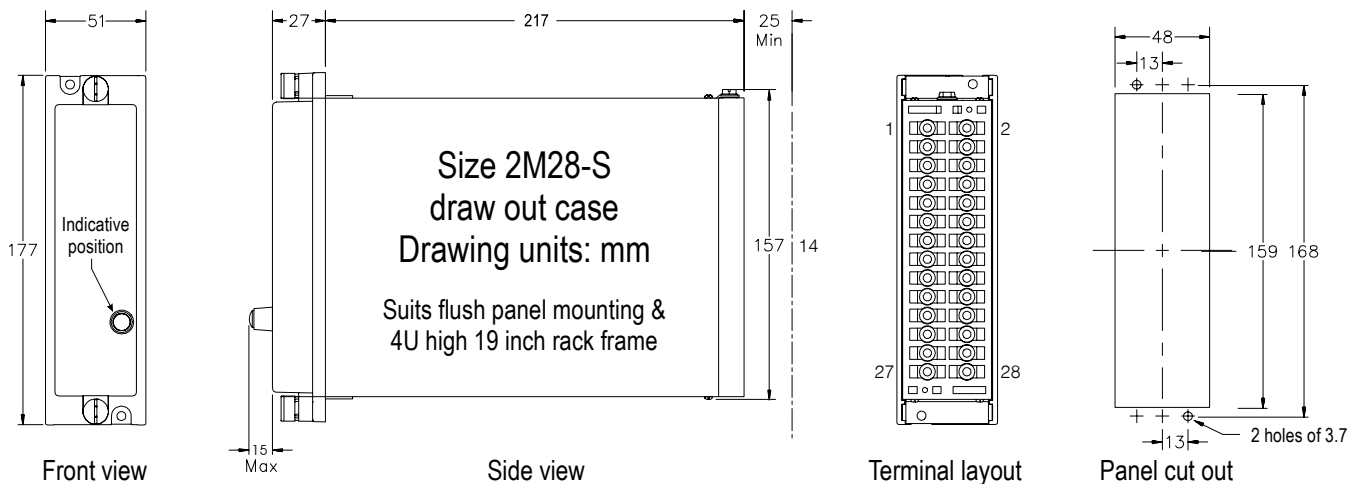

Figure 15: Alpha case details
The case termination diagram in figure 15 depicts the rear screw terminals and position of the five (5) output contacts.